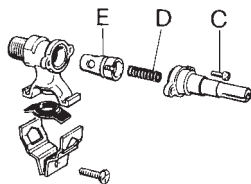

Fig.21
- reassemble all parts carefully (See Fig.21).